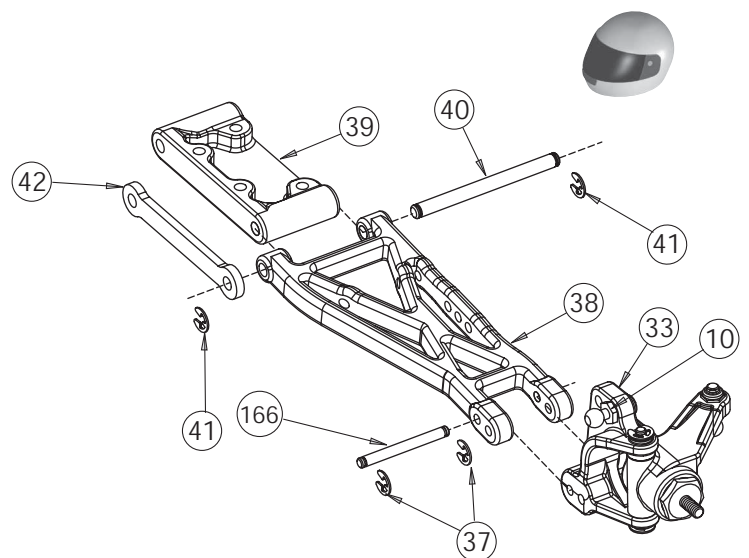

Figure 13
1. Place the left Spindle and Carrier assembly (Figure 12) into a front suspension Arm (38) as shown in Figure 13. Note that the Spindle Arm faces the side of the suspension Arm with the Shock mount holes (rear) and the Ball Stud (10) in the Spindle Carrier is pointing forward. Line up the two sets of holes in the Spindle Carrier (33) with the holes in the front Arm, insert a 3/32" x .930" Hinge Pin (166) in the inside of the outer two holes of the Arm and Spindle Carrier then attach a 3/32" E-clip (37) to both sides of the Hinge Pin.
2. Install a 1/8" E-clip (41) on one end of each inner 1/8" x 1.42" Hinge Pin (40).
3. Attach the Arm to the left side of the front Pivot Block (39) by inserting Hinge Pin from the back side, through the inside hole in the front Arm, and Pivot Block as shown in Figure 13.
5. Slide the front Hinge Pin Brace (42) over both front inner Hinge Pins. The E-clip grooves in both Hinge Pins should be exposed in front of the Brace. Secure the Brace by installing a 1/8" E-clip to the front of each Hinge Pin.